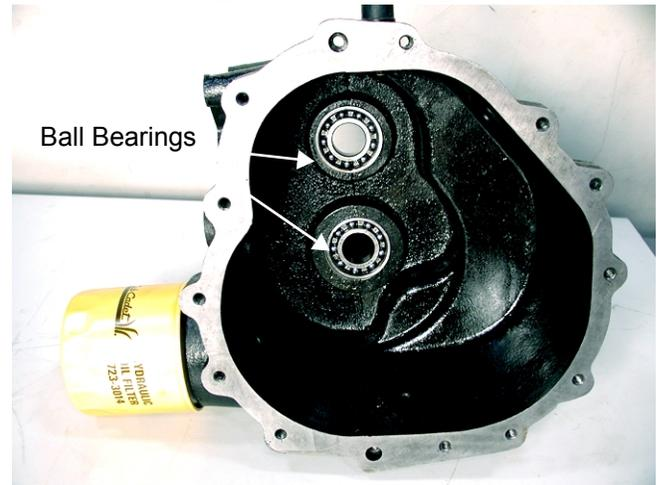

Figure 19
23. Inspect both ball bearings in the right transmission housing for wear or damage. See Figure 19.